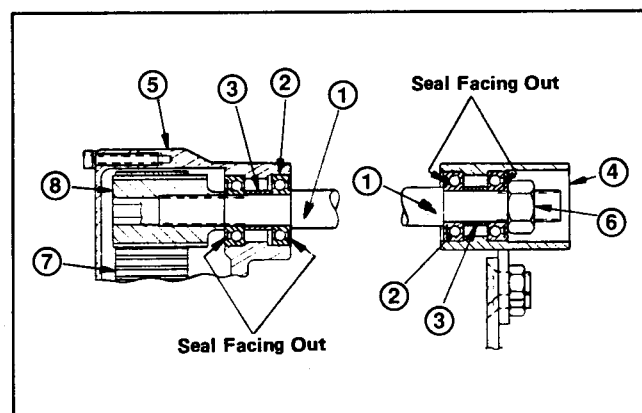

Figure 47
6. Check condition of groomer shaft bearings and replace if necessary (Fig. 47). Bearings must be installed with seal facing out on each side of bearing housing. For each groomer housing (R.H. and L.H.), install outer bearing and spacer first. Install inner bearing so it is flush with the housing (Fig. 47)